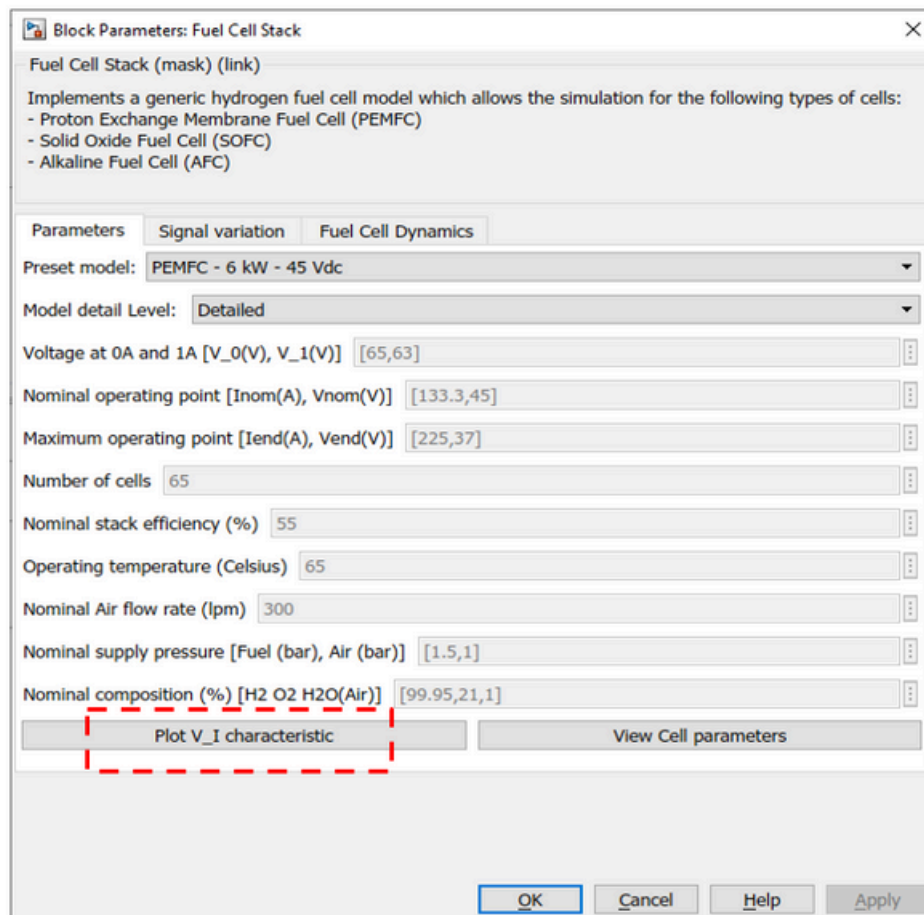

Figure 6.4: Block parameters of fuel cell stack[4]
8. Click Plot V_I characteristic as indicated in red box in Figure 6.4 to obtain fuel cell curves.